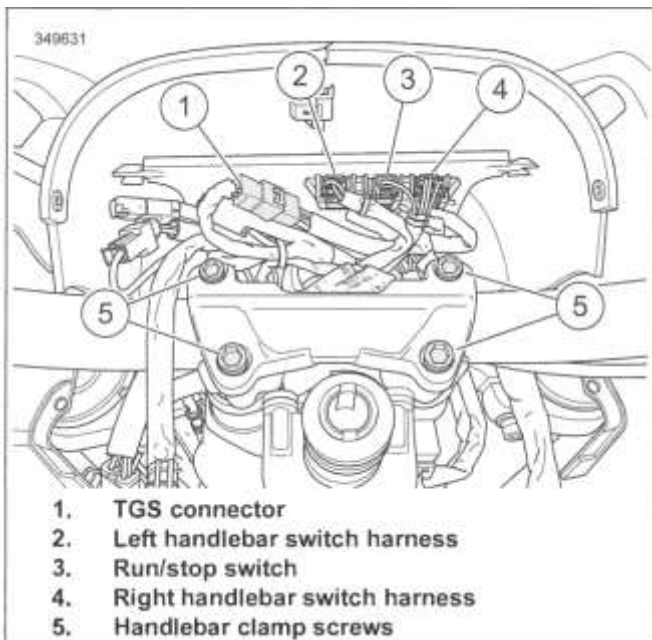

Figure 6-26. Handlebar Harness Connectors: Frame-Mounted Fairing Models
- b. See Figure 6-26. Disconnect TGS connector (1).
- a. See Figure 6-26. Connect TGS connector (1).